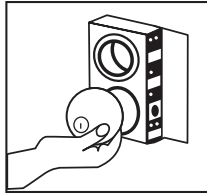

FIGURE 2
2. Install the lockset (sold separately) with 2-3/8" backset. Then, fully extend the lock bolts into the "locked" position (Fig. 2).